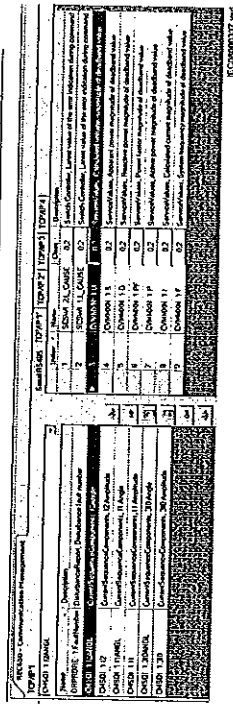

Figure 78: CMT: Container window design when selecting DNP3 protocol Procedure to move signals:
- Select the DNP3 protocol from the new window and click *OK*. Figure 78 presents the design of the two container windows, which open after the selection of DNP3.
- The left window has a drop down menu for signal selection and buttons for signal movement, see Figure 78.